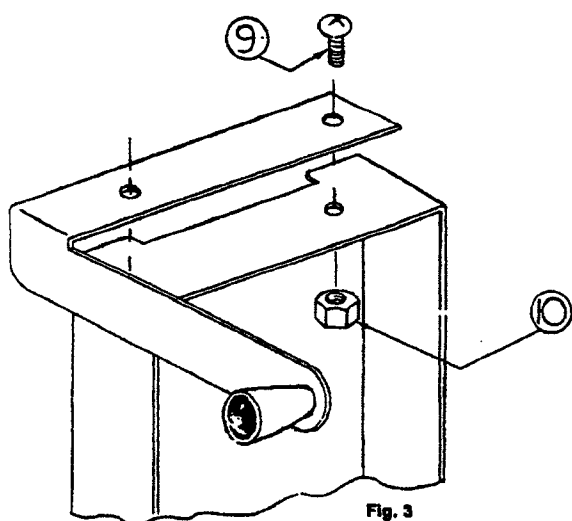

Fig. 3
- H. Decide whether you want to position the lamphouse elevating arm for right or left hand use and secure on the lamphouse mounting bracket with the two 3/8" long #10-32 machine screws and two Keps nuts per Figure 3.